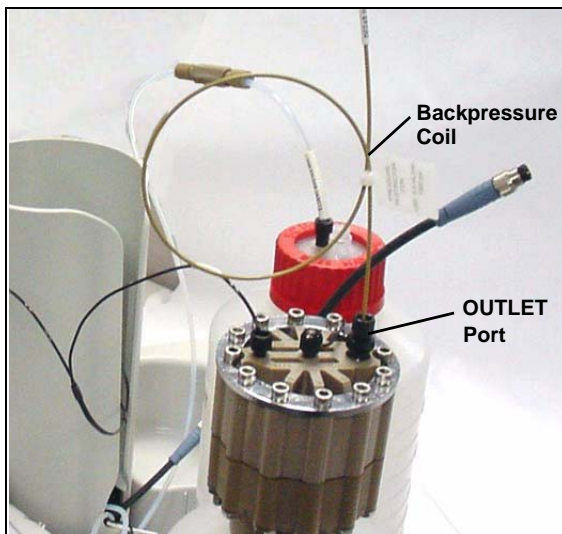

Figure B-40. EGC Outlet Connection for Conditioning the EGC
7. Connect one end of this coil to the EGC **OUTLET** port (see Figure B-40). Leave the other end of the coil unconnected.